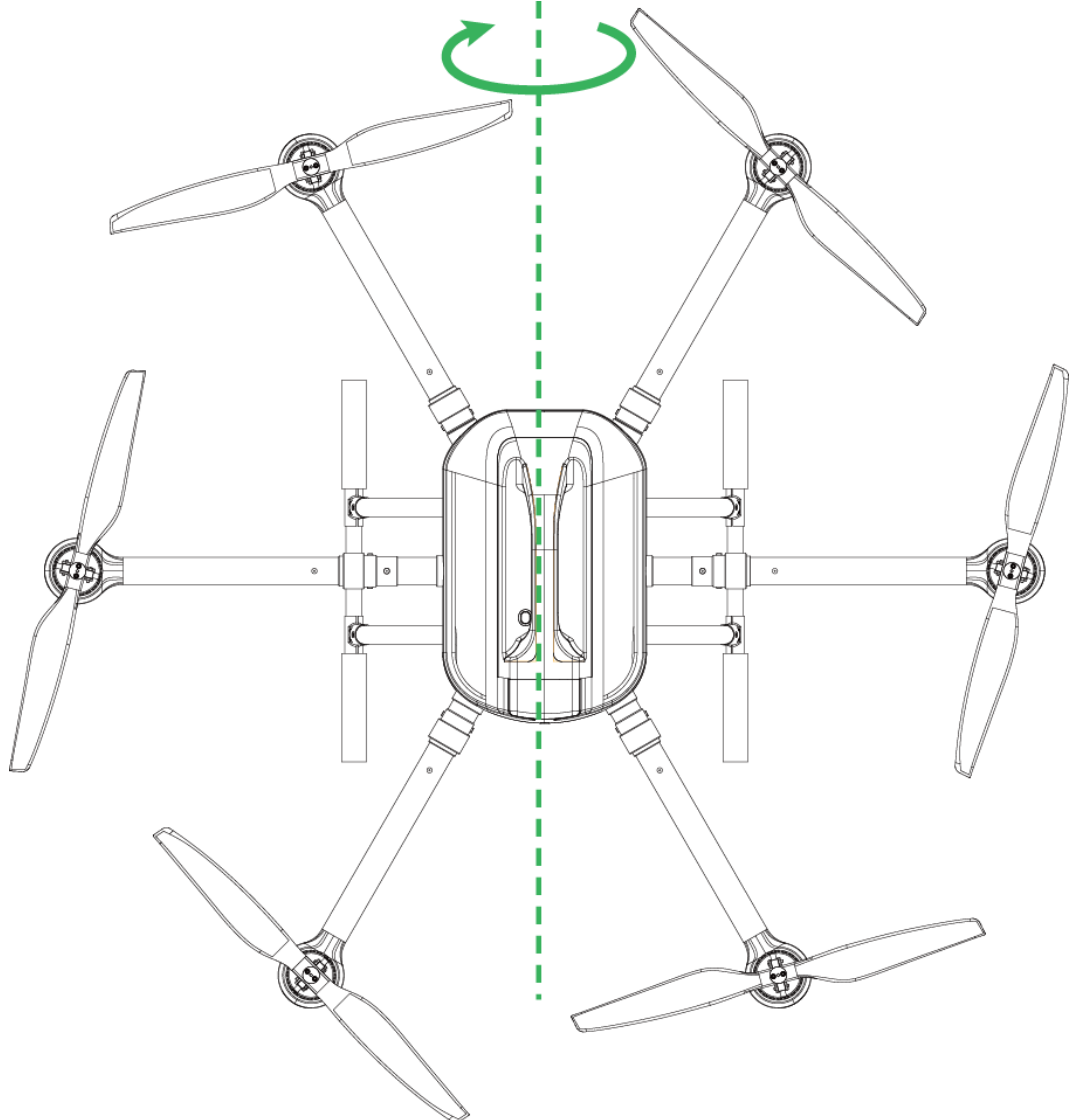

Figure 3-30
Step 4 Keep the aircraft vertical and rotate it for 360° vertically, as shown in Figure 3-30.